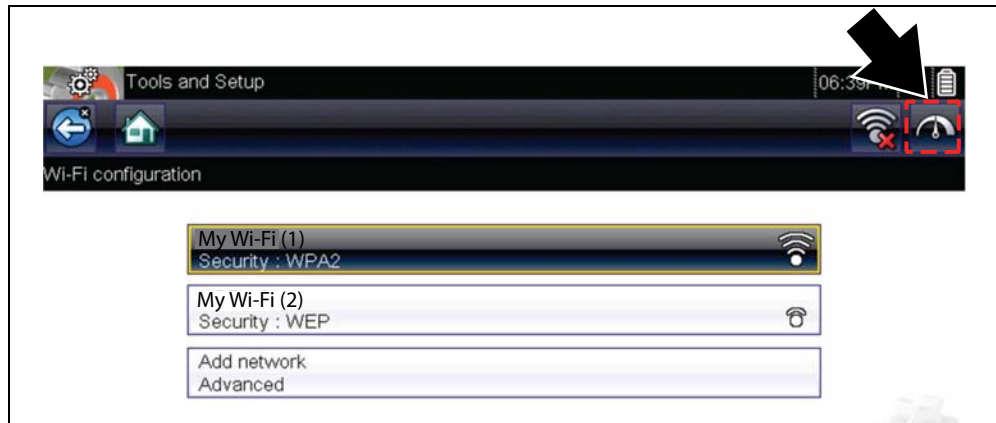

Figure 8-10 Wi-Fi Test Icon
3. From the Wi-Fi configuration screen, select the **Wi-Fi Test** icon to open the network connection test screen (Figure 8-10).